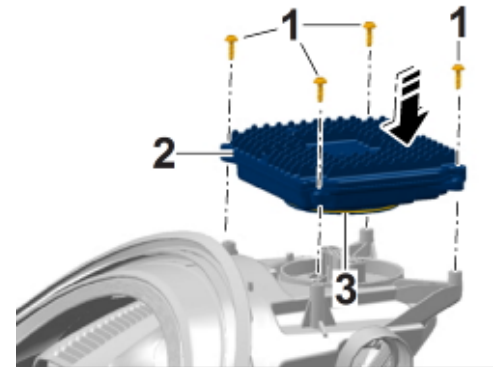

Figure 6
- 2.4 Fit LED module control unit on the new headlight. ⇒ *Figure 6*